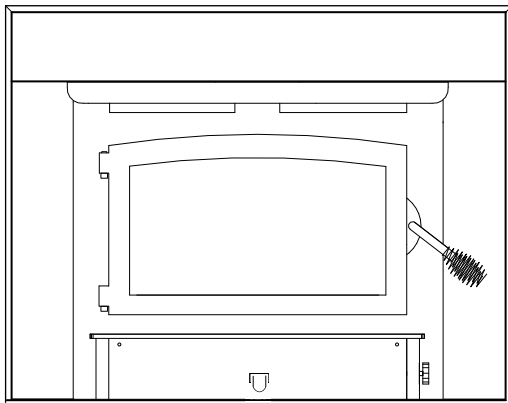

**FIGURE 9 MOUNTING TRIM PANELS**
1. Place side trim panels in place, flat against face of fireplace. Mark down front edge of trim panel with pencil to make a vertical reference line. (See Figure 9).
4. Mount side trim panels. (See Figure 9).